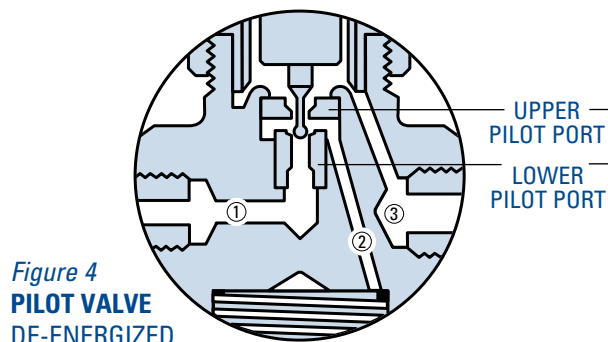

Figure 4
See Figure 4. With the pilot valve de-energized, high side pressure ① is prevented from entering the cavity above the piston-seat assembly ②. At the same time the upper pilot port is opened to suction pressure ③. The resulting pressure differential across the piston moves the piston-seat assembly to close the reclaim condenser port (upper main port). In this mode the system refrigerant flows to the normal condenser.
See Figure 4. With the pilot valve de-energized, high side pressure ① is prevented from entering cavity above the piston-seat assembly ②. At the same time the upper pilot port is opened to suction pressure ③. The resulting pressure differential across the piston moves the piston-seat assembly to close the reclaim (upper) main port. We use a solid piston ring on the piston thereby eliminating high to low side bleed, and the resulting capacity loss with the system in the normal condenser mode.